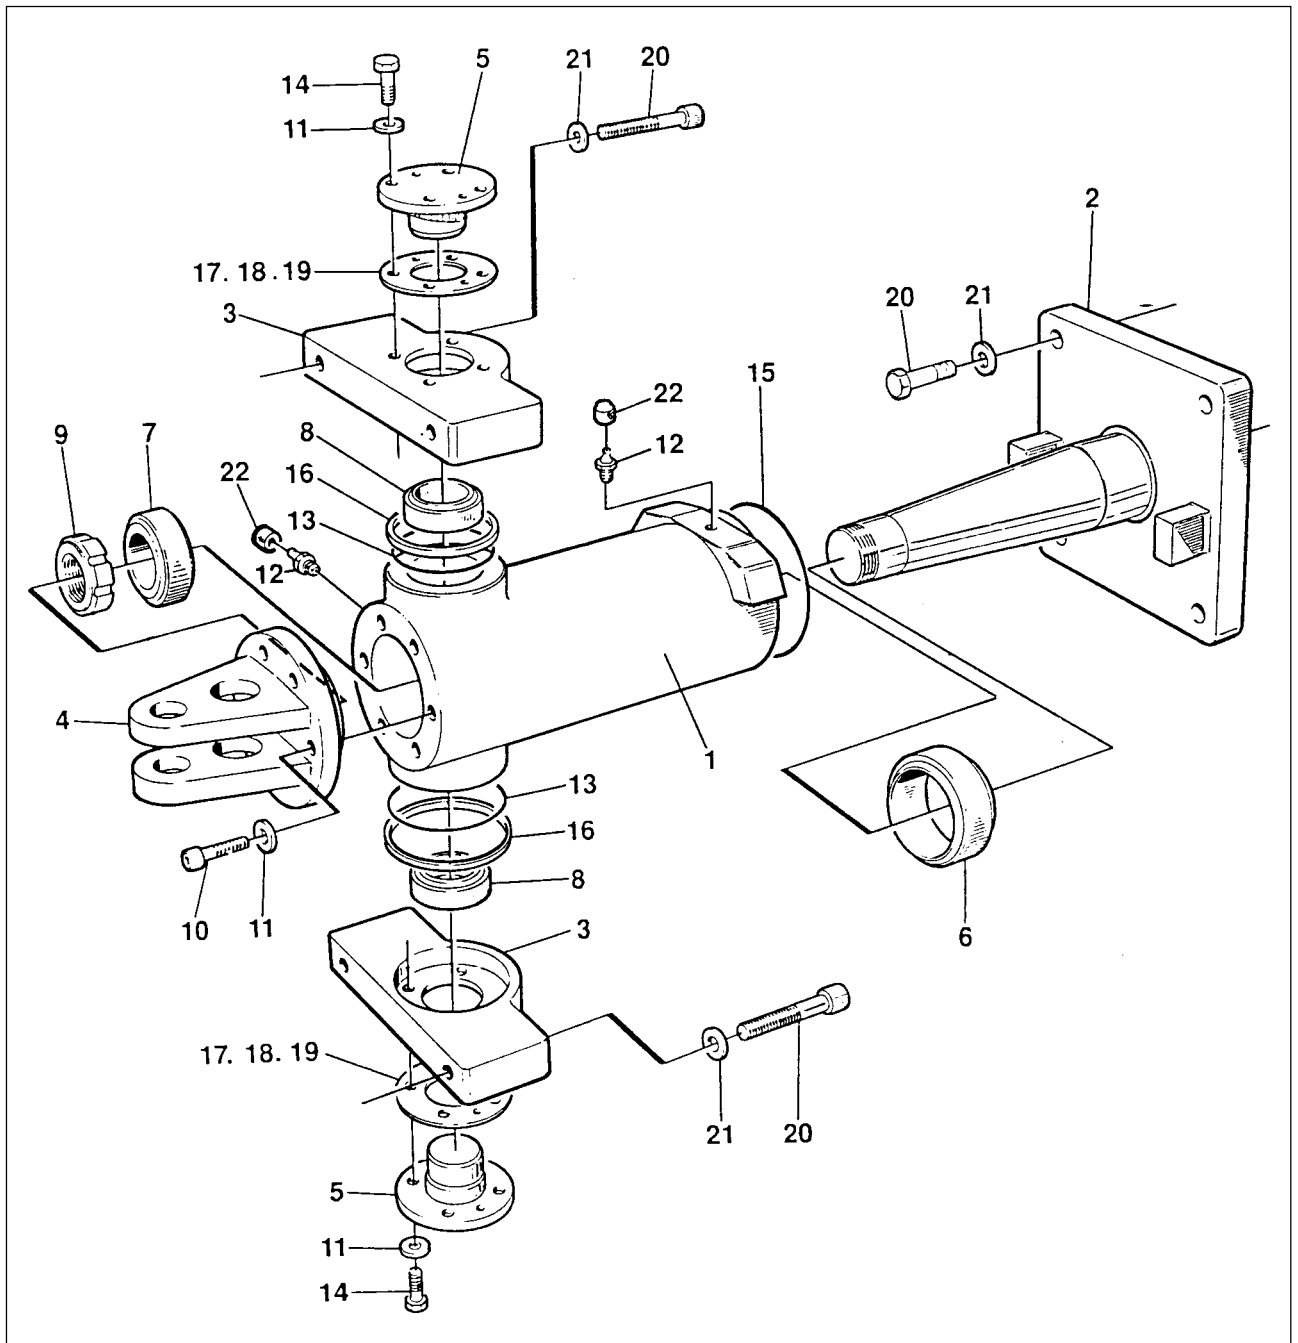
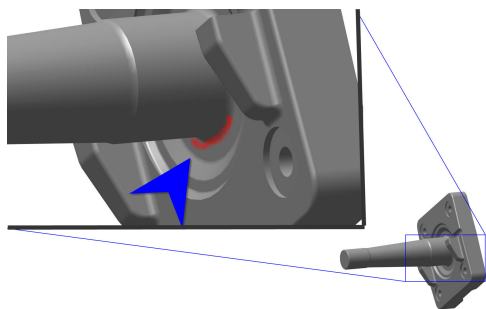

Fig. 1 Hitch
Fig. 2 Hitch shaft
1. Inspect bearing (pos 6, 7 and 8) for wear and damage, see figure 1. Replace if worn or damaged. Inspect shaft no damages or visibel crack should exist, figure 2
3. Fit the hitch to the front frame, fit the 4 screws (pos 20 in fig. 1 and 2), use Loctite 270 on the screws and tighten them to 333 Nm.